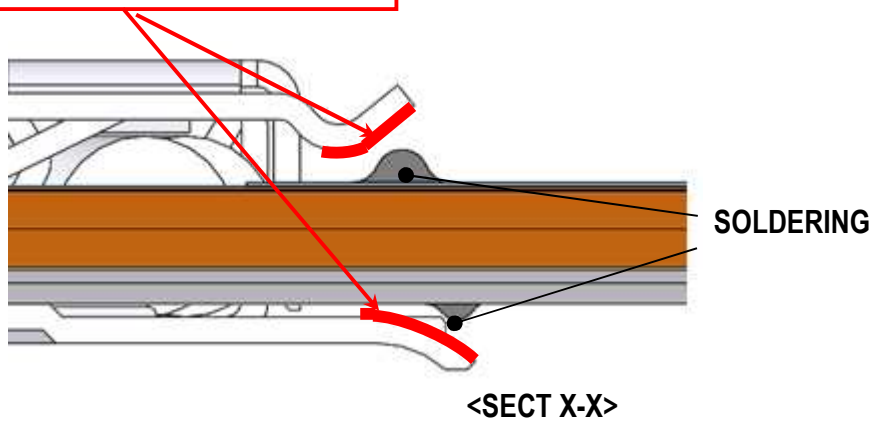

Fig.11 Soldering amount of SHELL and FPC
② Solder the FPC and SHELL by an appropriate amount. (Fig. 11).